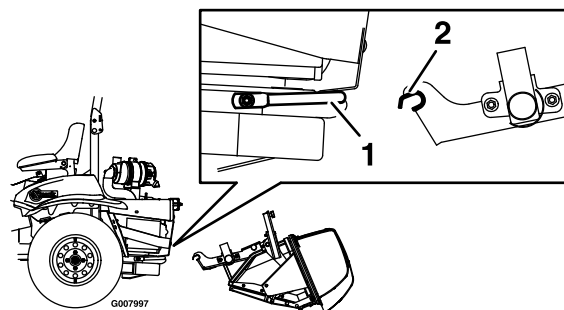

Figure 11
3. Lay the hopper assembly down as shown in Figure 11.
5. Pick up the frame legs and hook the notch onto the lower mount bar (see Figure 11).